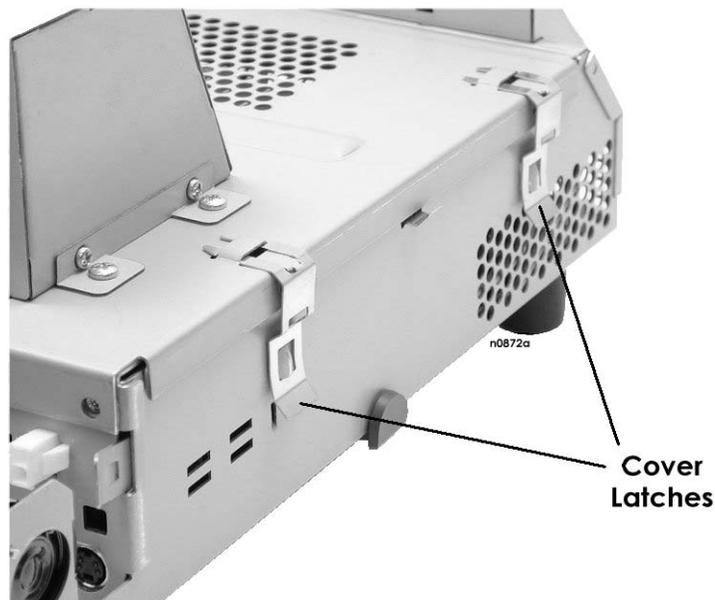

Figure 3-41: Closing the Cover Latches
- 2.** Once the lid is closed, secure it to the base by hooking the latches on the cover to the base as shown in Figure 3-41.